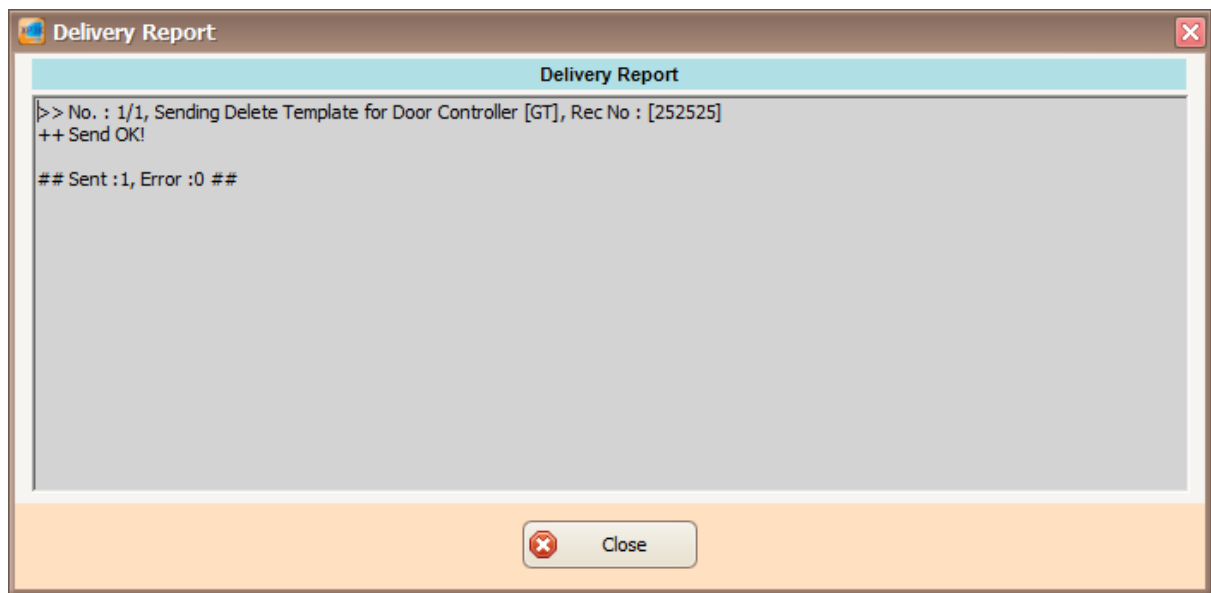

Figure 255 - Delivery Report for Delete Template
4. After finished sending the command, a Delivery Report window will be shown to display the result (Refer **Figure 255**).